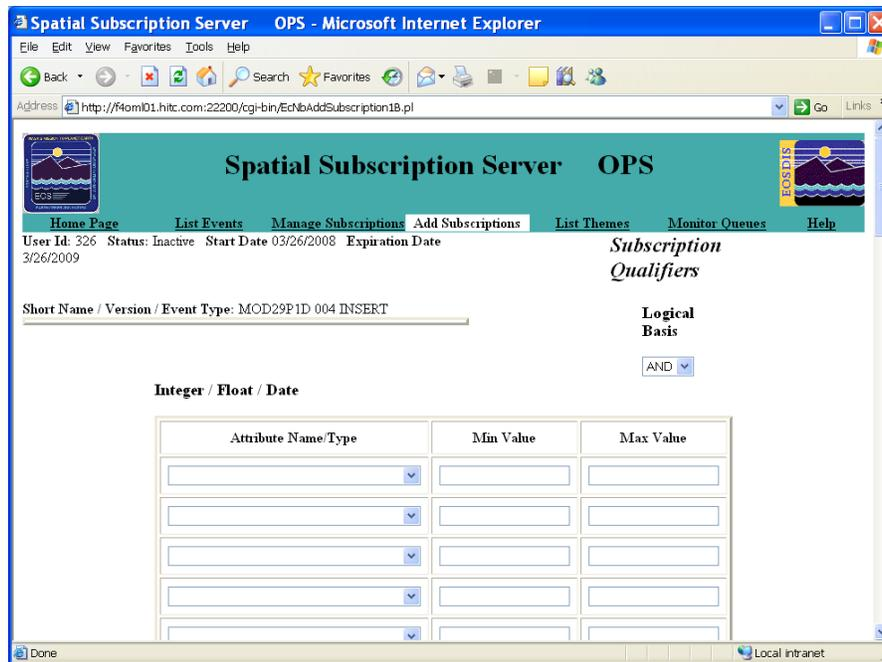

Figure 16.1-7. Subscription Qualifier
- Option buttons and fields are displayed (see Figure 16.1-7) to permit the entry of data in two general categories; i.e., **Subscription Qualifiers** and **Action Information**.